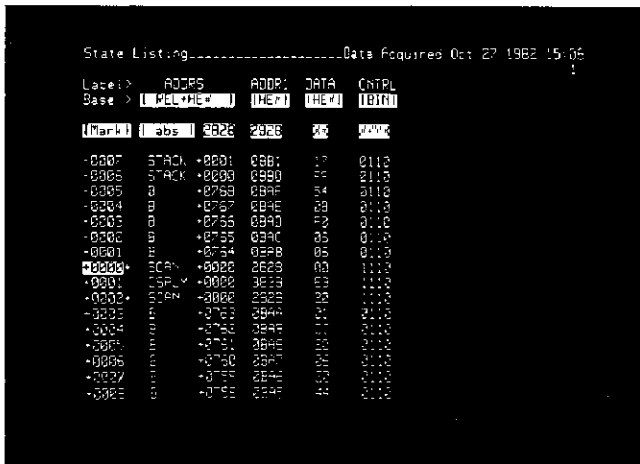

Figure 3-23. Trace List Using Values From Relocation Menu And Corresponding Absolute Values
- 6 Press the LIST key. The list display will show all of your labels on screen. There will be two columns of address information one will have the relocatable object code modules, each with its own count of address space, and the other will have the absolute, hexadecimal values captured from the system under test. See figure 3-23.